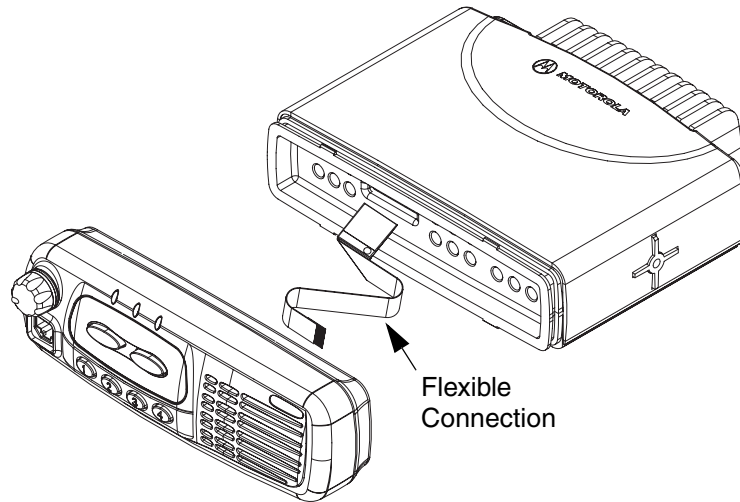

Figure 2-2: Flexible Connection Removal
3. Pull the control head away from the radio assembly as shown in Figure 2-2.